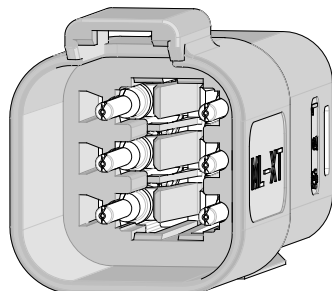

Figure 4
3. The connector without the Wedgeloek will look like Figure 4.